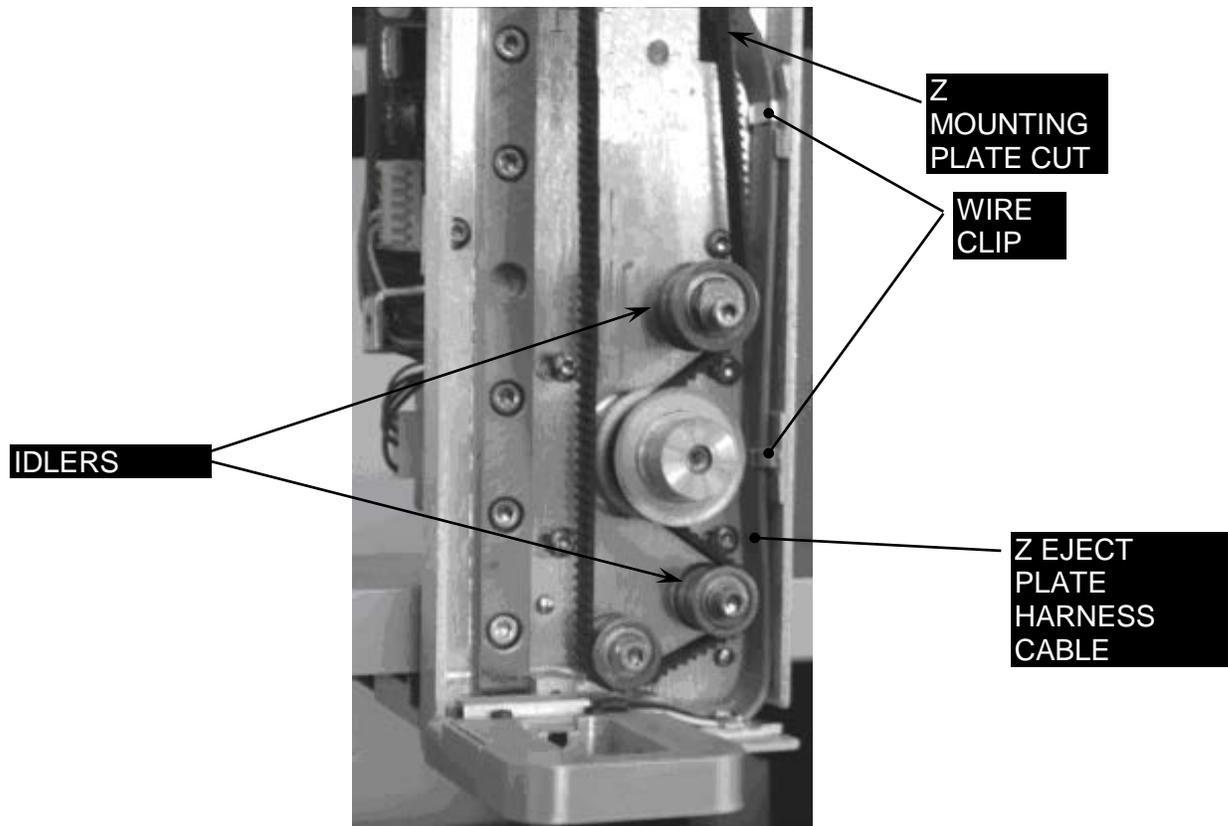

Figure 7-51: Z Eject Plate Harness
3. Run the Z Eject Plate Harness up the side of the Z Mounting Plate and thread the connector through the cut in the plate. Clamp the cable in the wire clips. Ensure that the cable lies flat to the side as it passes the belt idlers (Figure 7-51).